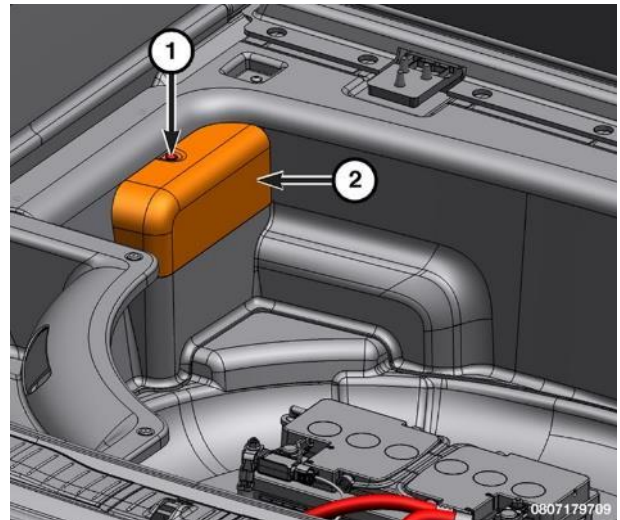

Figure 9 – HVTSM Cover
- f) Remove the fastener (1) then remove the High Voltage Test and Service Module (HVTSM) cover (2) (Figure 9).